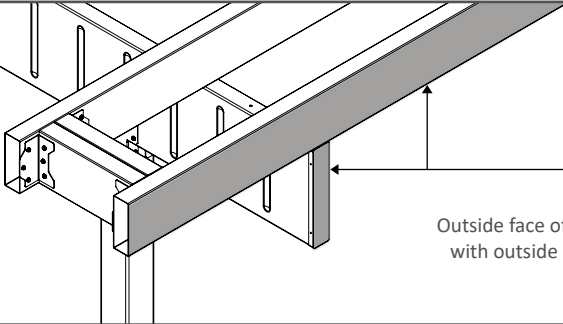

Fig. 59
4. Using Evolution Self-drilling Screws, fasten End Joists onto mounted F-50 Brackets. As shown in Fig. 59.